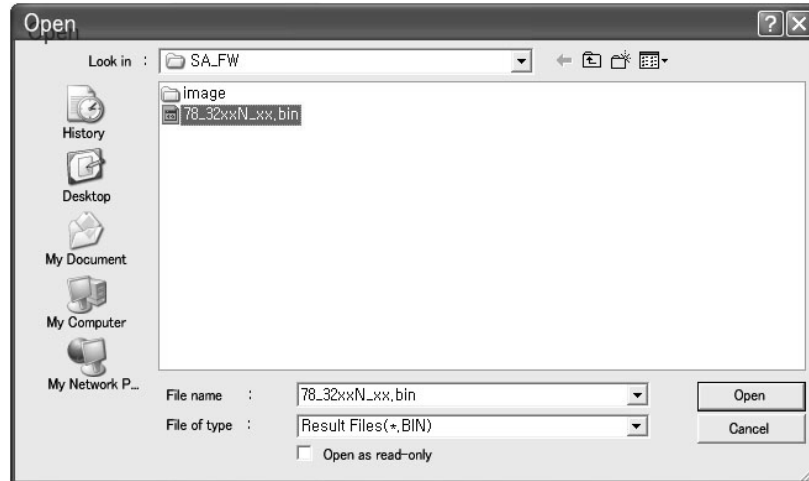

Figure 6.3. The window to select source file
- 7) After pressing the button of “Select”, the window to select the source file will be activity as like Figure 6.3.